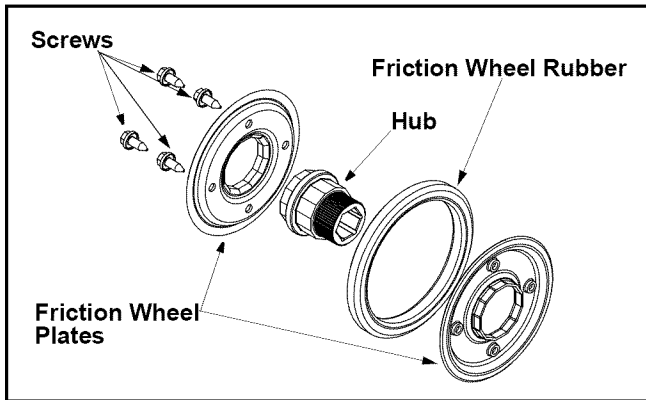

Figure 20
- Remove the four screws from the friction wheel assembly. Remove the friction wheel rubber from between the friction wheel plates. See Figure 20.